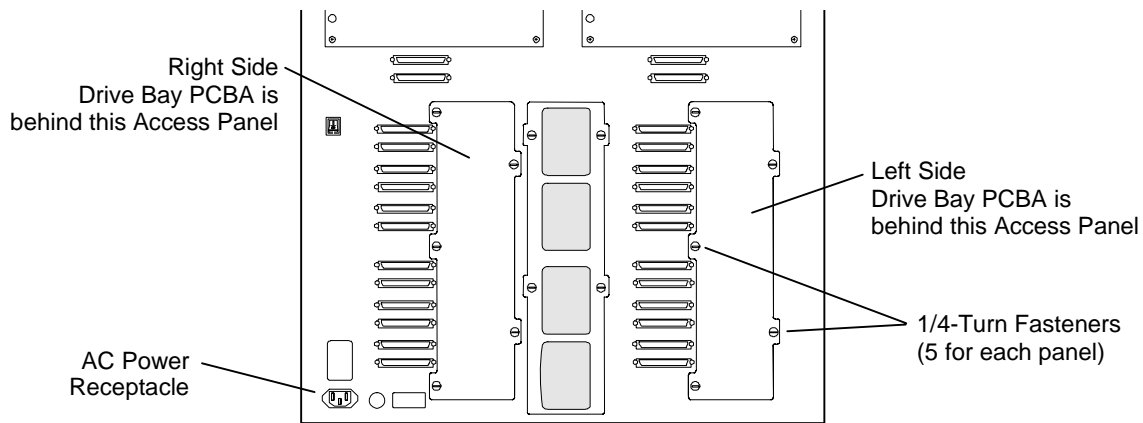

Figure 7-39 Drive Access Panels
2. Using a flat-blade screwdriver, remove the appropriate Drive Access Panel at the rear of the TLS by turning its five quarter-turn fasteners counter-clockwise (Figure 7-39).
6. Align the Drive Access Panels five quarter-turn fasteners with the corresponding receptacles on the rear panel, then fasten it by turning the quarter-turn fasteners clockwise (Figure 7-39).